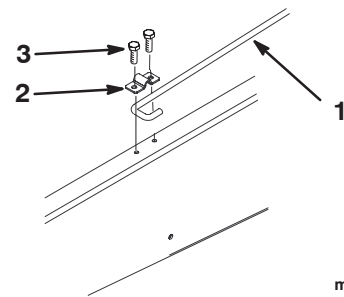

Figure 9
6. Loosen the bolt securing the prop rod clip to the frame until you can slide the J-hook end of the prop rod under the clip (Fig. 9).
7. Tighten the bolt and secure the other side of the clip with a new bolt (5/16 x 3/4 in.) (Fig. 9).